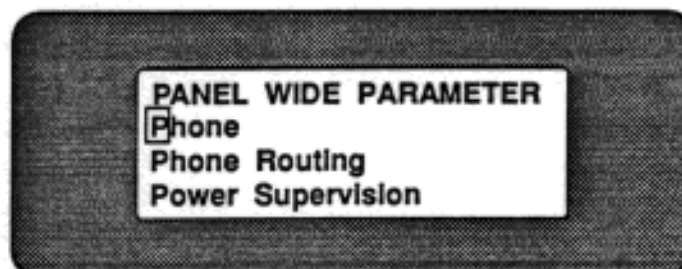

Figure 10: CATEGORIES IN THE 7112 PANEL WIDE PARAMETERS MODULE MENU
*Categories* within the D7112 Panel Wide Parameters section appear in the LCD display (see Figure 10). These correspond to the Panel Wide Parameters categories shown on the D7112 Program Record Sheet (Phone, Phone Routing, Power Supervision, etc.). Move the cursor through the category titles with the red ↓ and ↑ keys. Three categories are always displayed in the Panel Wide Parameters menu. When the cursor is moved down from the last category (**BELL PARAMETERS**), the first category (**PHONE**) scrolls into view.
Scroll through the Panel Wide Parameter categories (using the red ↓ and ↑ keys) until the cursor flashes on **Phone** (see Figure 10). Press the red ENTER GROUP key.